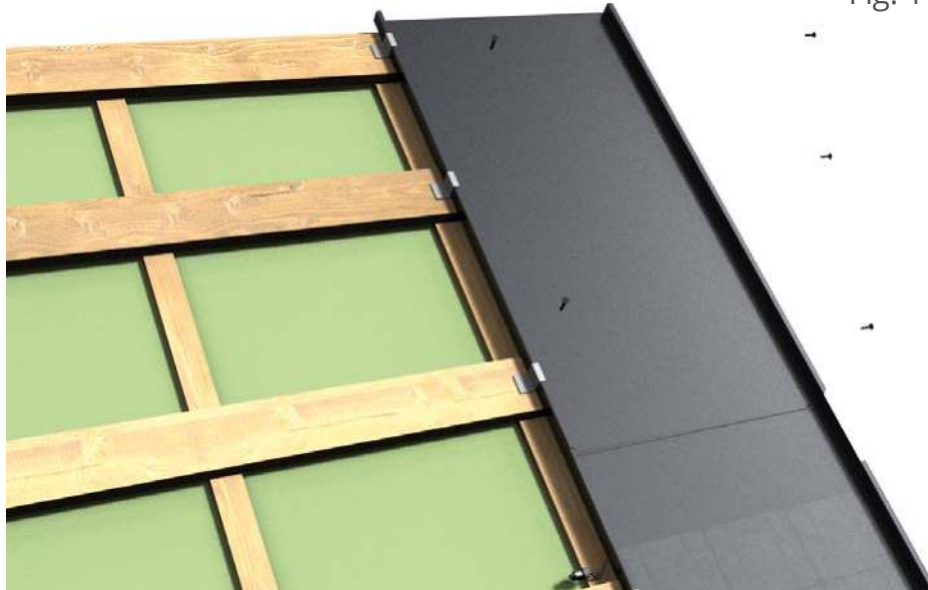

Fig. 14
- e. Then placing folded part of regular metal panel that was prepared under the fastened small overlapping element (Fig. 14).